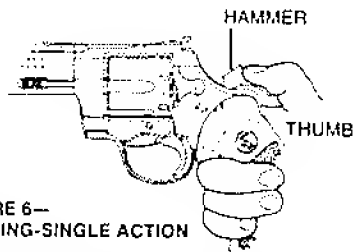

FIGURE 6—
3. (S) 1. *To fire single action*, grasp revolver by its grip, keep fingers away from trigger and draw hammer fully back (about an inch) to the cocked position where it will be held to the rear (See Figure 6). Remove thumb from Hammer Spur.